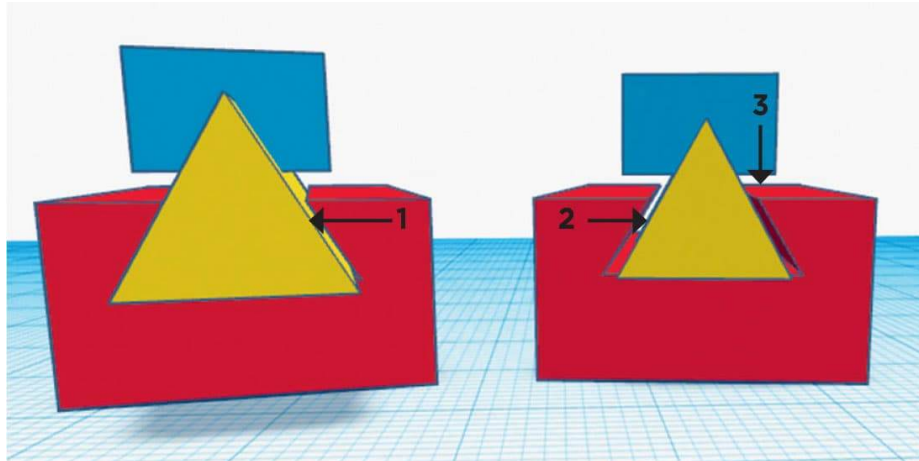

FIG. 4: Slide the grouped tail section into the socket. The correct fit has a slight gap.
7. Group the roof and the box/cylinder from step 4 to complete the tail section. Move it in position to mate with the socket section so you can check the fit. Fig. 4 shows an incorrect fit on the left (arrow 1) and the correct fit on the right (arrow 2 shows the slight gap between the tail and socket sections of the joint). The gap shown by arrow 3 will not impact the joint as much and can be less than 1 mm.